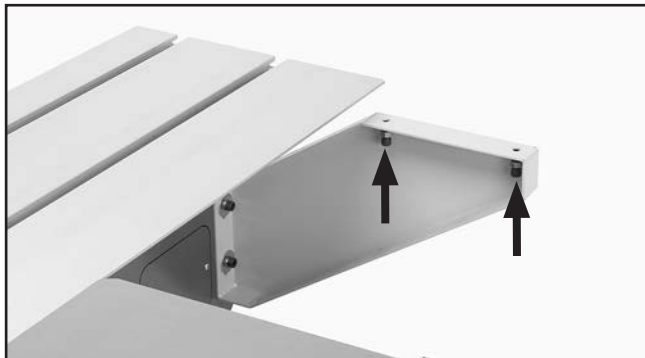

Figure 31. Small extension table support cap screws (table removed for photo clarity).
12. Attach the table support to the saw body, as shown in **Figure 31**, with the cap screws and washers already installed on the saw body.
13. Thread an M10-1.5 hex nut all the way onto two M10-1.5 x 20 cap screws, then install the cap screws where shown in **Figure 31** to help level the small extension table level once it is installed. Tighten the hex nuts against the table support to lock the cap screws in place.